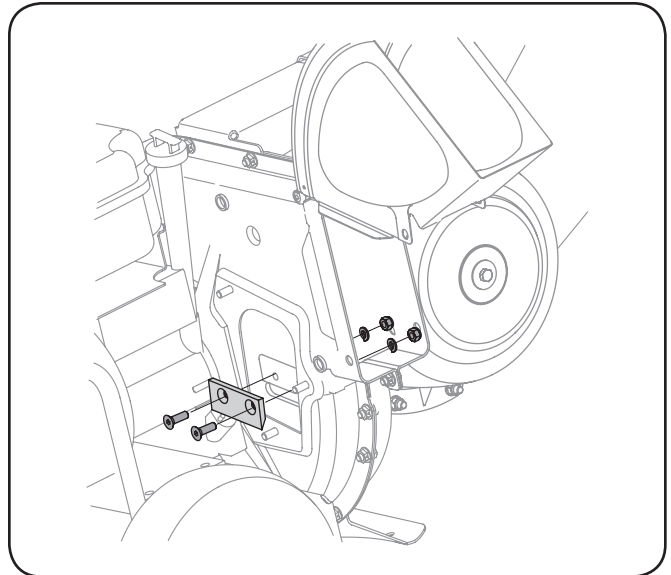

Figure 7-2
6. Remove the blade by removing the internal hex screws, lock washers, and hex nuts which secure it to the impeller. See Figure 7-2. Retain the hardware.